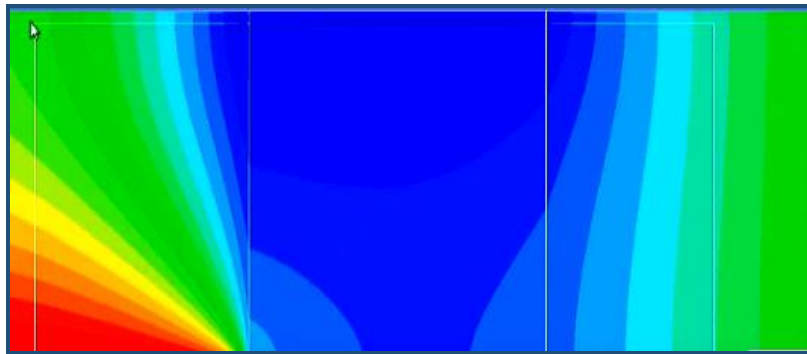

Figure 7.2: Temperature contour of composite material
5. Analyze the results using the Ansys CFD post to get the contour as shown in Figure 7.2.